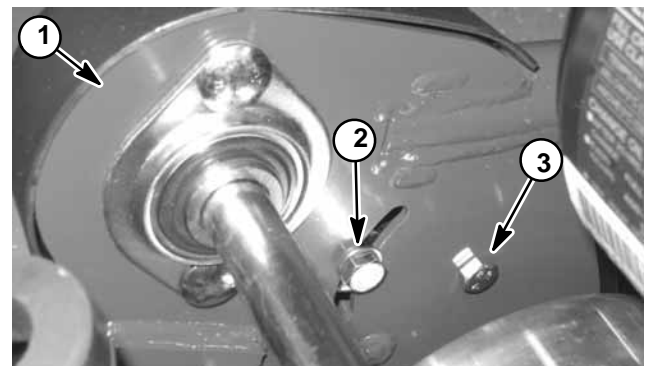

Figure 14
4. Remove cap screw and tab washer that secures the idler bracket to the side plate of the mower (Fig. 14).
4. Install cap screw and tab washer that positions the idler bracket to the side plate of the mower (Fig. 14). Make sure that washer tab is in slot and orientated down.